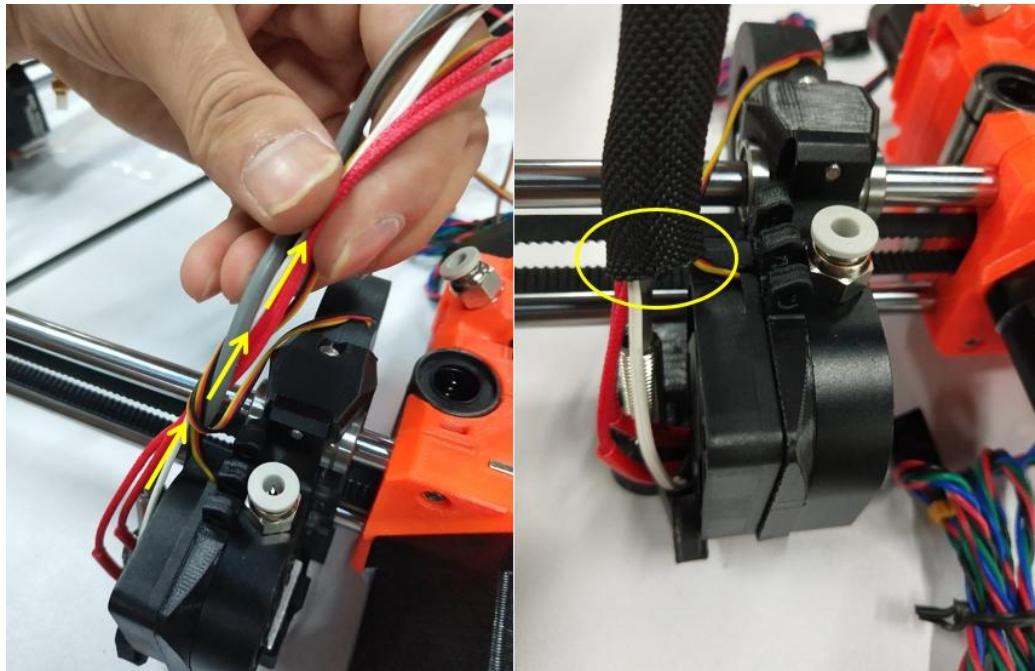

Figure 2.13.7
**Step 2-13-3:** As shown in Figure 2.13.7, wrap the extruder cable together and wrap the cable with a wire harness sleeve.